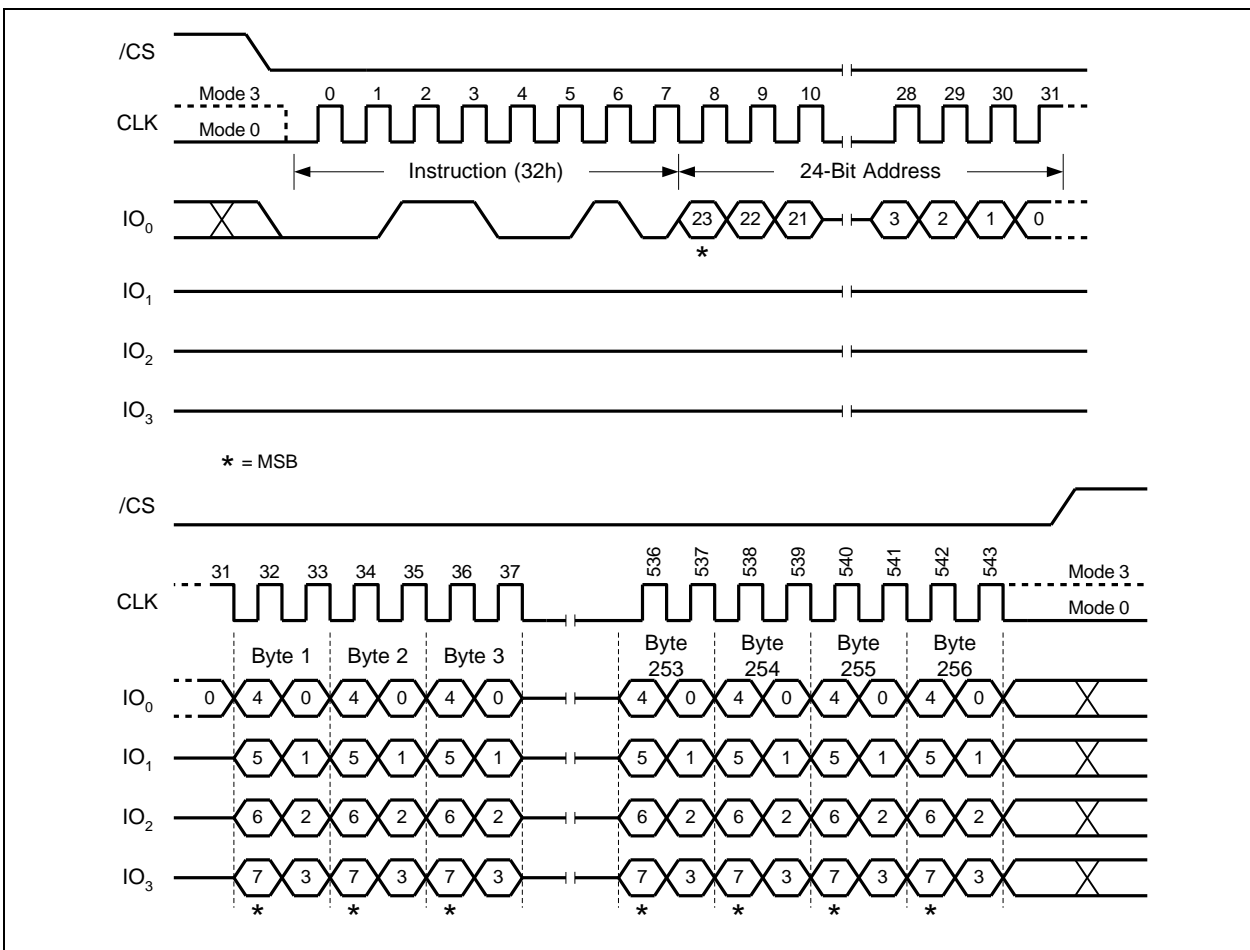

Figure 30. Quad Input Page Program Command (SPI Mode only)
To use Quad Page Program, the Quad Enable (QE) bit in Status Register-2 must be set to 1. A Write Enable Instruction must be executed before the device will accept the Quad Page Program Instruction (Status Register-1, WEL=1). The Instruction is initiated by driving the /CS pin low then shifting the Instruction code "32h" followed by a 24-bit address (A23-A0) and at least one data byte into the IO pins. The /CS pin must be held low for the entire length of the Instruction while data is being sent to the device. All other functions of Quad Page Program are identical to standard Page Program. The Quad Page Program Instruction sequence is shown in Figure 30.